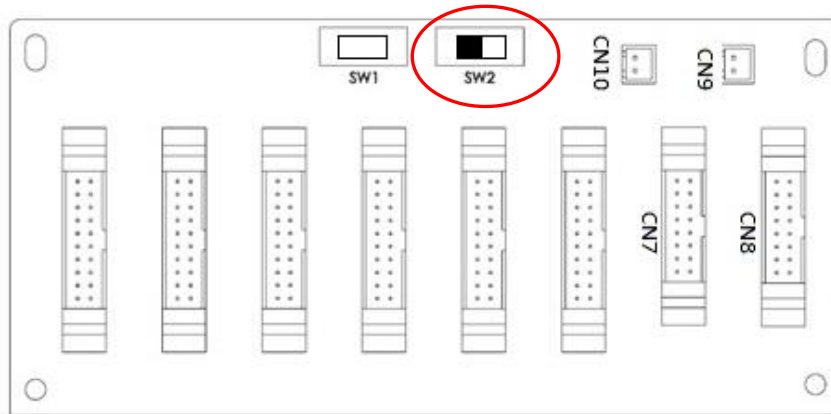

Figure 9-3 Rack 2 SW2 set to the left side
1. The parallel board(s) of the Rack 2, the SW2 must be set to the left side, please refer to the figure 9-3 below.